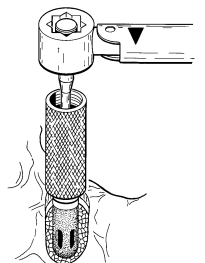

Fig. 2
5. Final torque tightening of the Locator Abutment to prevent screw loosening is achieved using the 20N-cm Torque Wrench Kit (Zest order #4391, Fig. 2). The 15mm length Square Drive Torque Wrench Driver is used when interocclusal space is limited, and the 21mm length is used when interference is caused by an adjacent tooth.